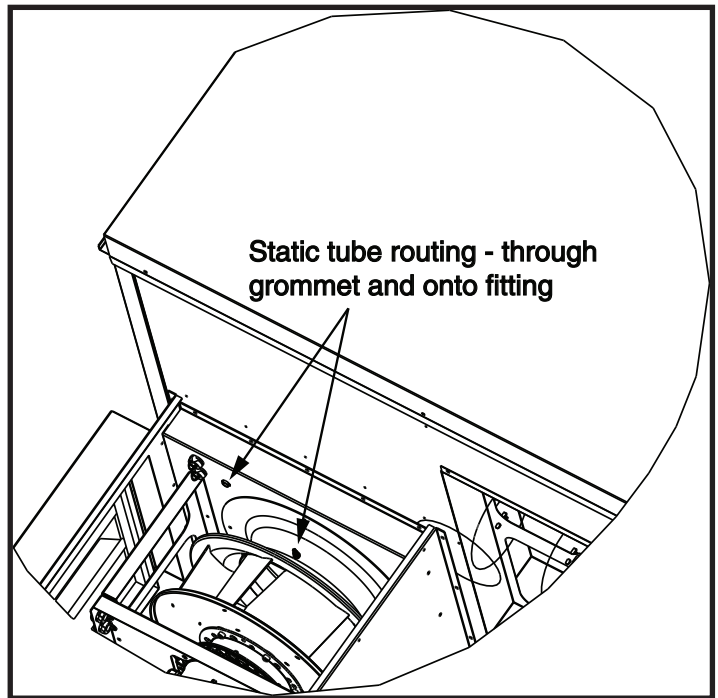

Figure 2. Tubing Routing Location
4. Lace the tubing for the high static tap into the power exhaust unit through the grommet as shown in Figure 2.
7. Attach static tube to barbed fitting on top of fan shroud. See Figure 2.